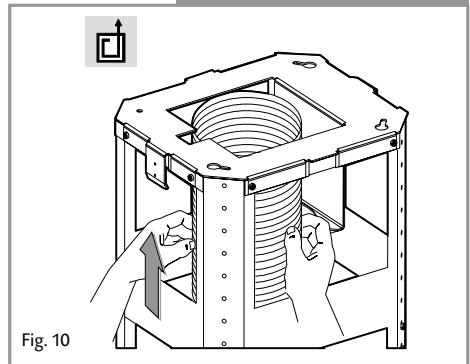
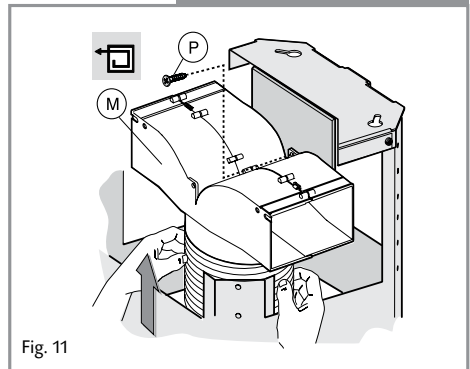

Fig. 10
Fig. 11
9. Assemble the ventilation duct(H), as shown in the diagrams below dependant on whether you are extracting air to the outside (Fig 10) or re-circulating (Fig 11), in which case you will need to use the supplied T-piece (M). Ensure that the duct adapter (F) is securely connected to the duct pipe or T-piece in order to minimise noise.
10. Fit the vent adapter(F) to the body of the motor as shown in Fig 11 using 2 screws (E)